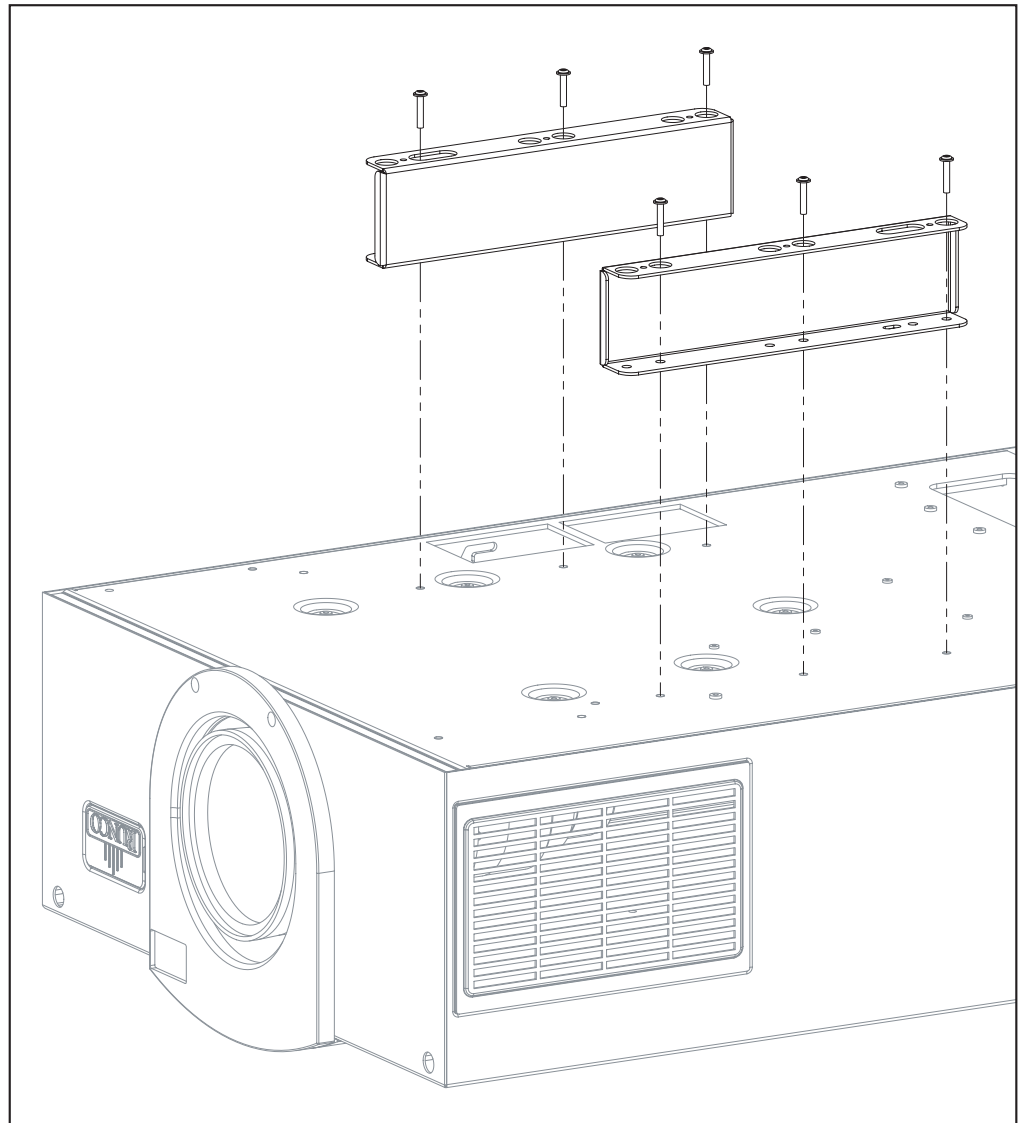

Figure 3-7. VX-33d with Ceiling Mount Adapters/Projector Stands
Using six (6) each of the supplied, M6 x 12mm Pan-Head Phillips screws (item #2), attach the AutoScope Ceiling Mount Adapters/Projector Stands (items #3 and #4) to the projector as shown in Figure 3-7.